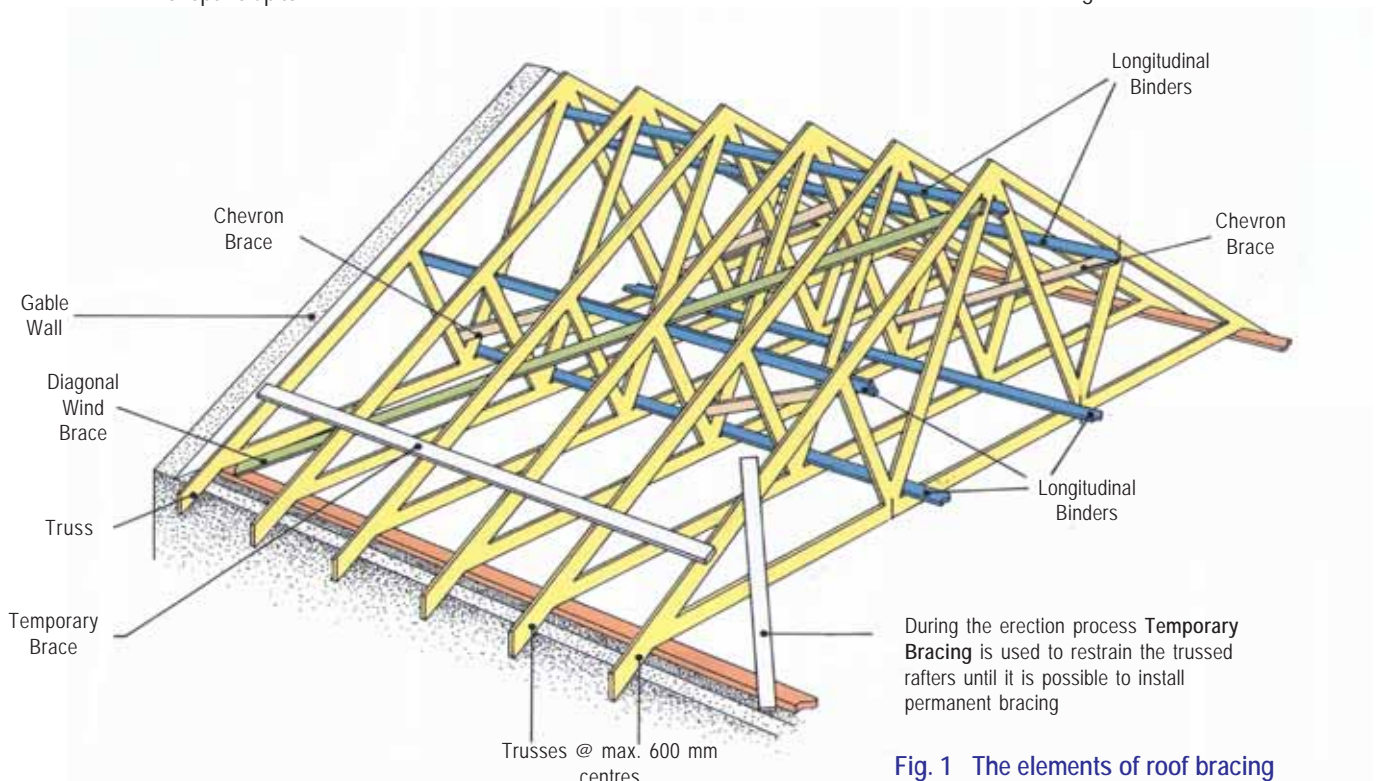

Fig. 1 The elements of roof bracing
- At least 4 rafter diagonal braces (see Fig. 1) are fixed to the underside of rafters at approx. 45°.
- Longitudinal bracing (see Fig. 1) is located at all node points (including the apex but excluding support points).
- Chevron bracing (see Figs 1 & 8) should be included for spans over 8 m.